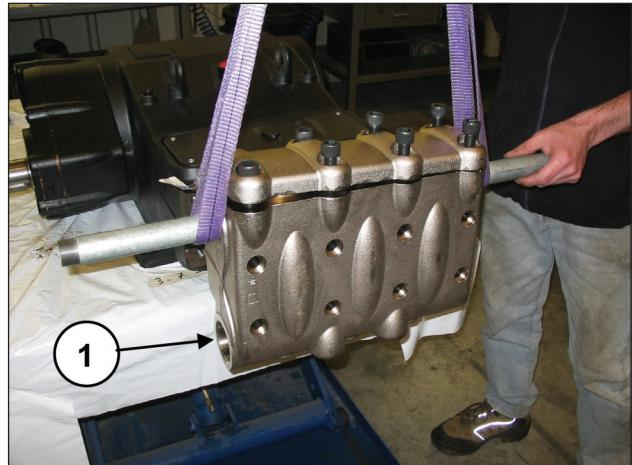
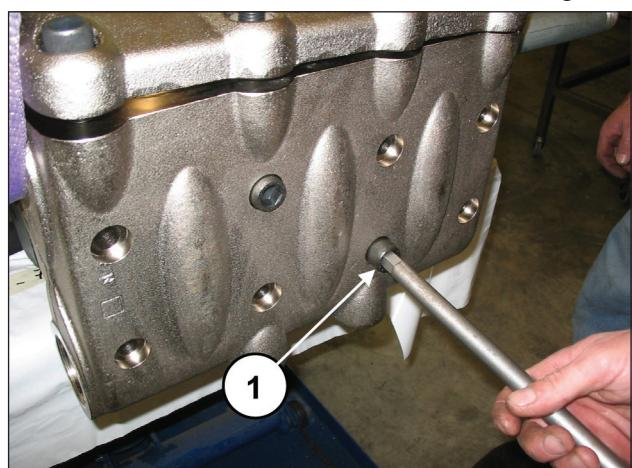

Fig. 117
Fig. 118
Assemble the head on the pump casing (pos. ①, Fig. 117) taking care not to hit the pistons and screw in the 8 M16x180 screws (pos. ①, Fig. 118).
Tighten the 8 M16x180 screws starting crosswise from the 4 inner screws (see Fig. 117), to then continue with the 4 outer screws, always tightening crosswise